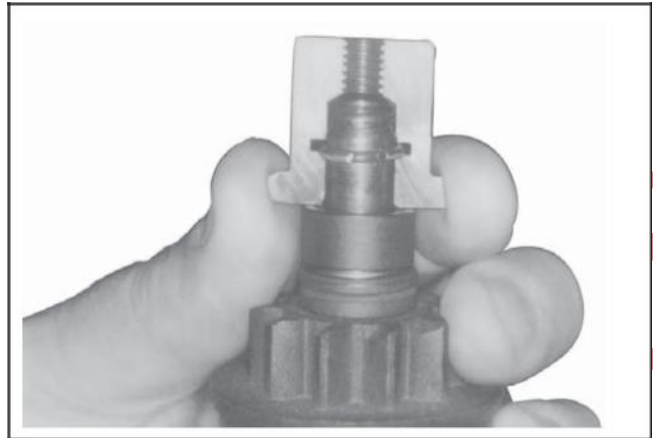

Figure 8-18. Assembling Inner Half of Tool Around Armature Shaft and Retaining Ring.
4. Holding the spring retainer in the retracted position, assemble the inner halves of the removal tool around the armature shaft with the retaining ring in the inner groove (see Figure 8-18). Slide the collar over the inner halves to hold them in position.